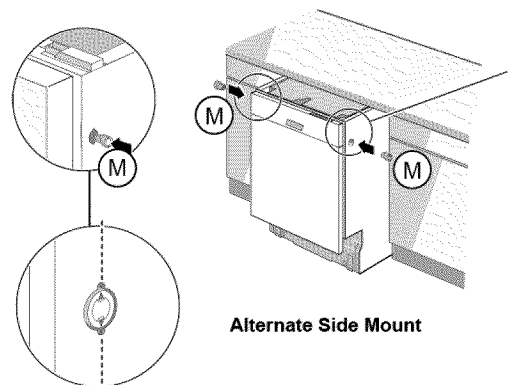

Figure 19
**Alternate Side Mount** for opening 235/8" (600 mm). Insert a side mount force distributor (M) in each side as shown in **Figure 19**.